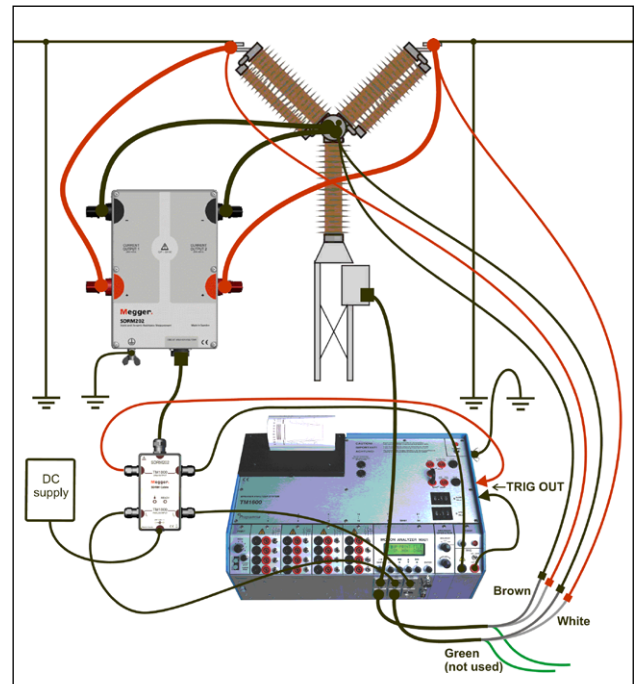

Fig 5.2.1 Hook up example. Figure shows hook-up with SDRM202. The SDRM201 is hooked-up the same way but with only one channel.
- 1] Hook up the SDRM201/202 to the CB, see example in figure 5.2.1.